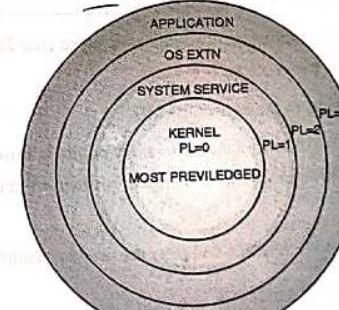

Fig. 12.6.1 : Privilege levels of the tasks in x86 architecture
4. The PLs are numbered 0, 1, 2, and 3. Level 0 is the most privileged level. Level 3 is the least privileged. As shown in Fig. 12.6.1, level 3 is used for user application, level 2 is used for OS extensions, level 1 for system services, and the most privileged level 0 is used for kernel.